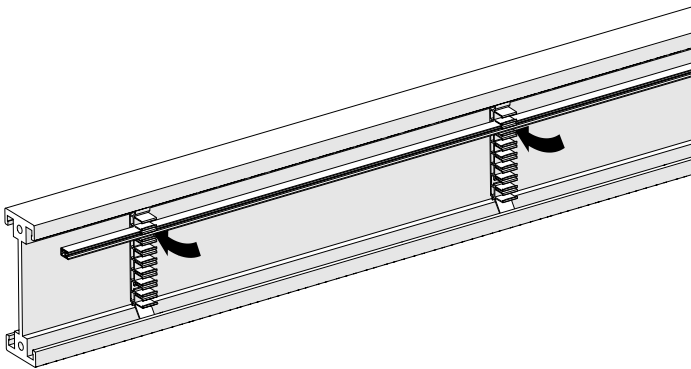

Fig. 52: Support profile with a conductor rail installed
- Engage the conductor rails in the hanger clamps (see Fig. 52).